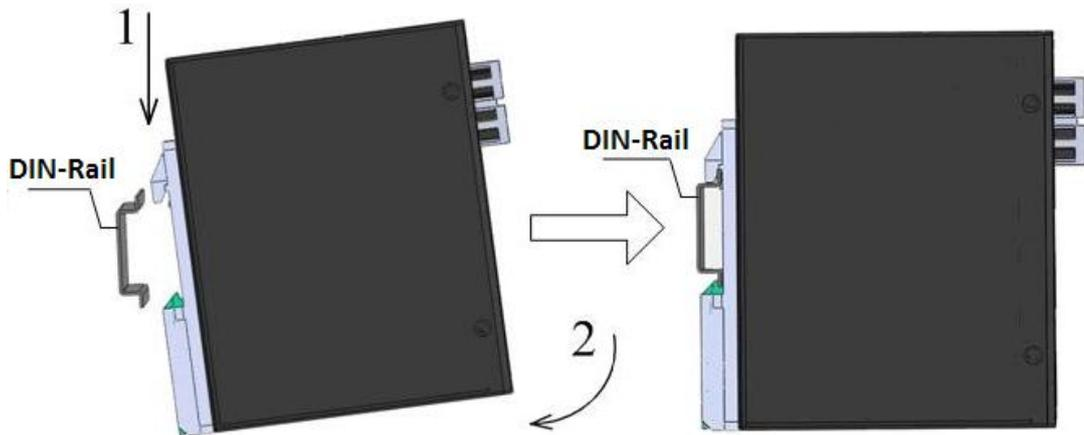

Figure 5 DIN-Rail Mounting
Step 2: Insert the top of the DIN-Rail into the slot of the DIN-Rail connecting seat in the rear panel of KOM300M as seen in Figure 5; move the device in the direction of arrow 2 to put the whole Din-Rail into the seat; verify the KOM300M is firmly mounted on the DIN-Rail, as shown in Figure 5.